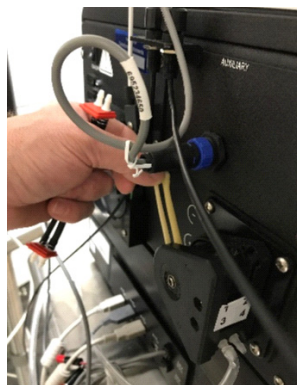

Figure 6-27 Removing the tubing
2. Lift up to remove the peristaltic tubing from the pump, repeat on the bottom (Figure 6-27).